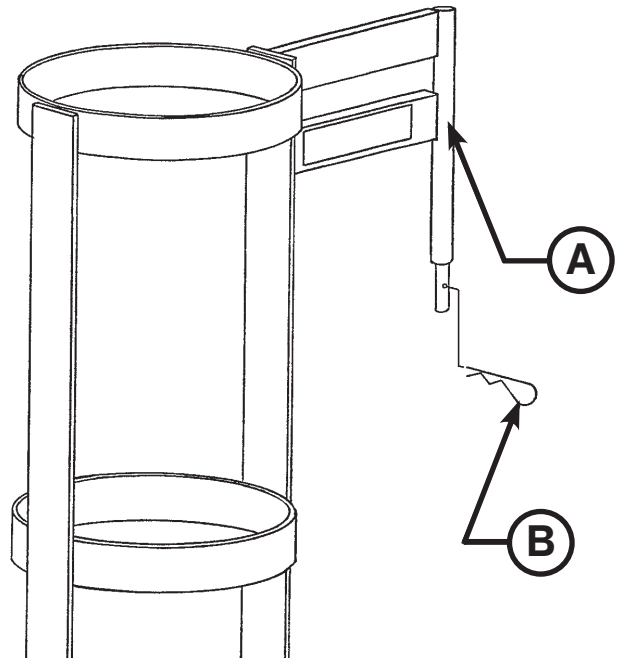

Figure 50: Upright Oxygen Bottle Holder
To install the upright oxygen bottle holder, insert the support bar (A) into the I.V. socket at any of the four litter corners. Insert the cotter pin (B) through the hole in the support bar to hold the bottle holder in place as shown in Figure 50.